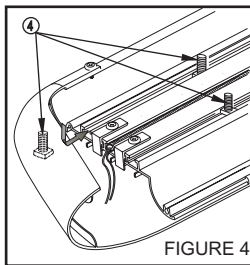
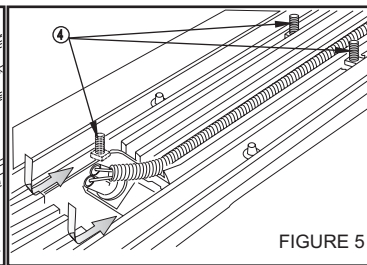

FIGURE 4
FIGURE 5
STEP 5. Insert square head bolts as shown (2 per slot, 4 per Step board/Running board). **SEE FIGURES 4 AND 5. NOTE:** For lighted boards, run wiring harness prior to attaching board to brackets (refer to Step 5). **SEE FIGURES 4, 5 AND 8.** Run longer wire harness on passenger side.
HINT: Molded Step Boards: For longevity, check rubber seals before installation. Rubber grommets around red and blue wires going into rear sockets, should be inserted and recessed about 1/4". **NOTE:** Remove bulbs and apply white grease into sockets and replace bulbs. Apply RTV Silicone where lights go into socket. Install lights and run wire loom as shown. **SEE FIGURE 5.** For Sure-Grip Running Boards, run wire loom down center as shown. **SEE FIGURE 4.**